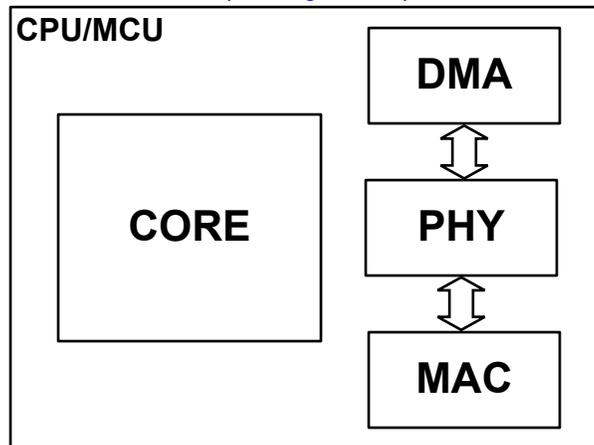

Figure 1-2. CPU With Integrated MAC and PHY
1. CPU with integrated ethernet MAC and PHY (see Figure 1-2).